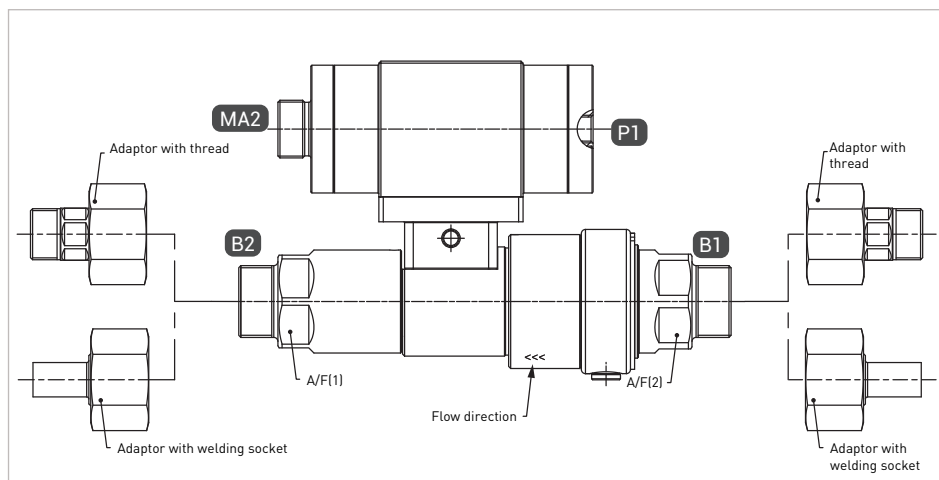

Figure 1
- ▶ When mounting the shut-off valve, hold an open-ended spanner (A/F45 or A/F46) against the spanner flats A/F(1) and A/F(2) (*Figure 1 on Page 19*).